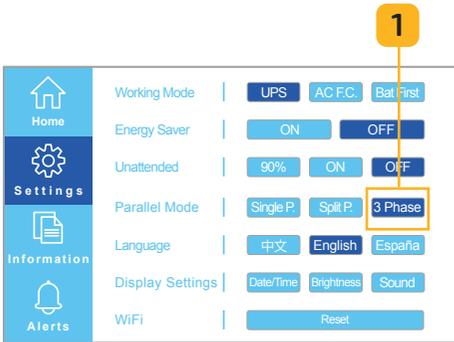

Fig. 6.26 Select 3-phase button
1. Select the **3-phase** button to set the unit's phase to P1, P2, or P3 (Fig. 6.26).